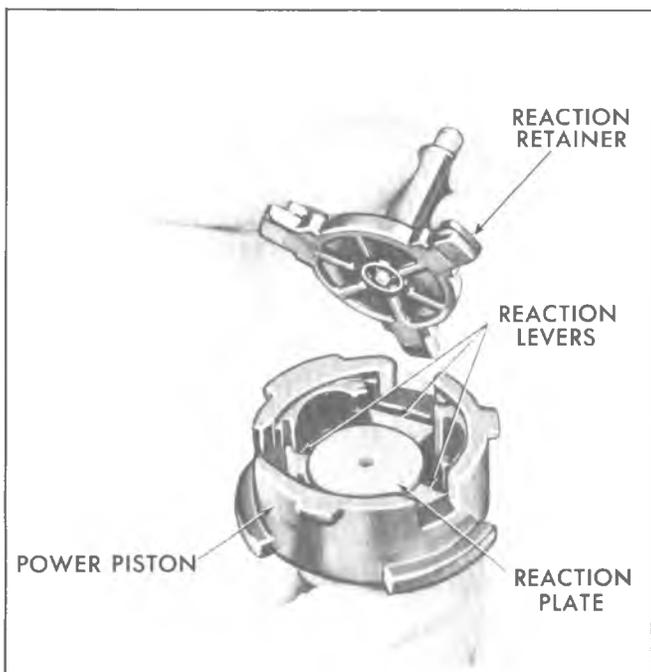

Fig. 5-7C--Removing Reaction Retainer
4. Remove reaction retainer, piston, reaction plate, three (3) reaction levers and air valve spring. Also remove reaction bumper and air valve spring retainer from air valve (fig. 5-7C).